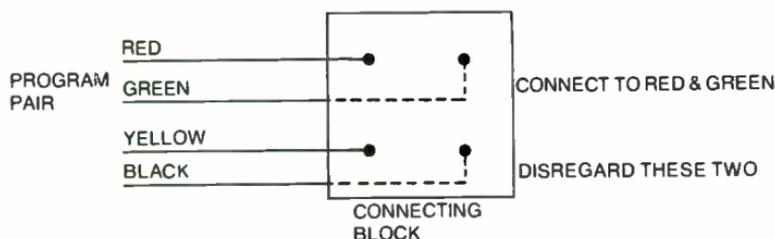

Fig. 7-3. Be sure to connect the remote amplifier to the correct pair of wires. Disregard any other wires.
**At the Remote Site**—One common problem is the connection of the remote amplifier to the telephone line. In many cases, there is a four-wire cable that connects to a four-post terminal block (Fig. 7-3). So the installer ties his four wires to the block even though only two actually are used. Now